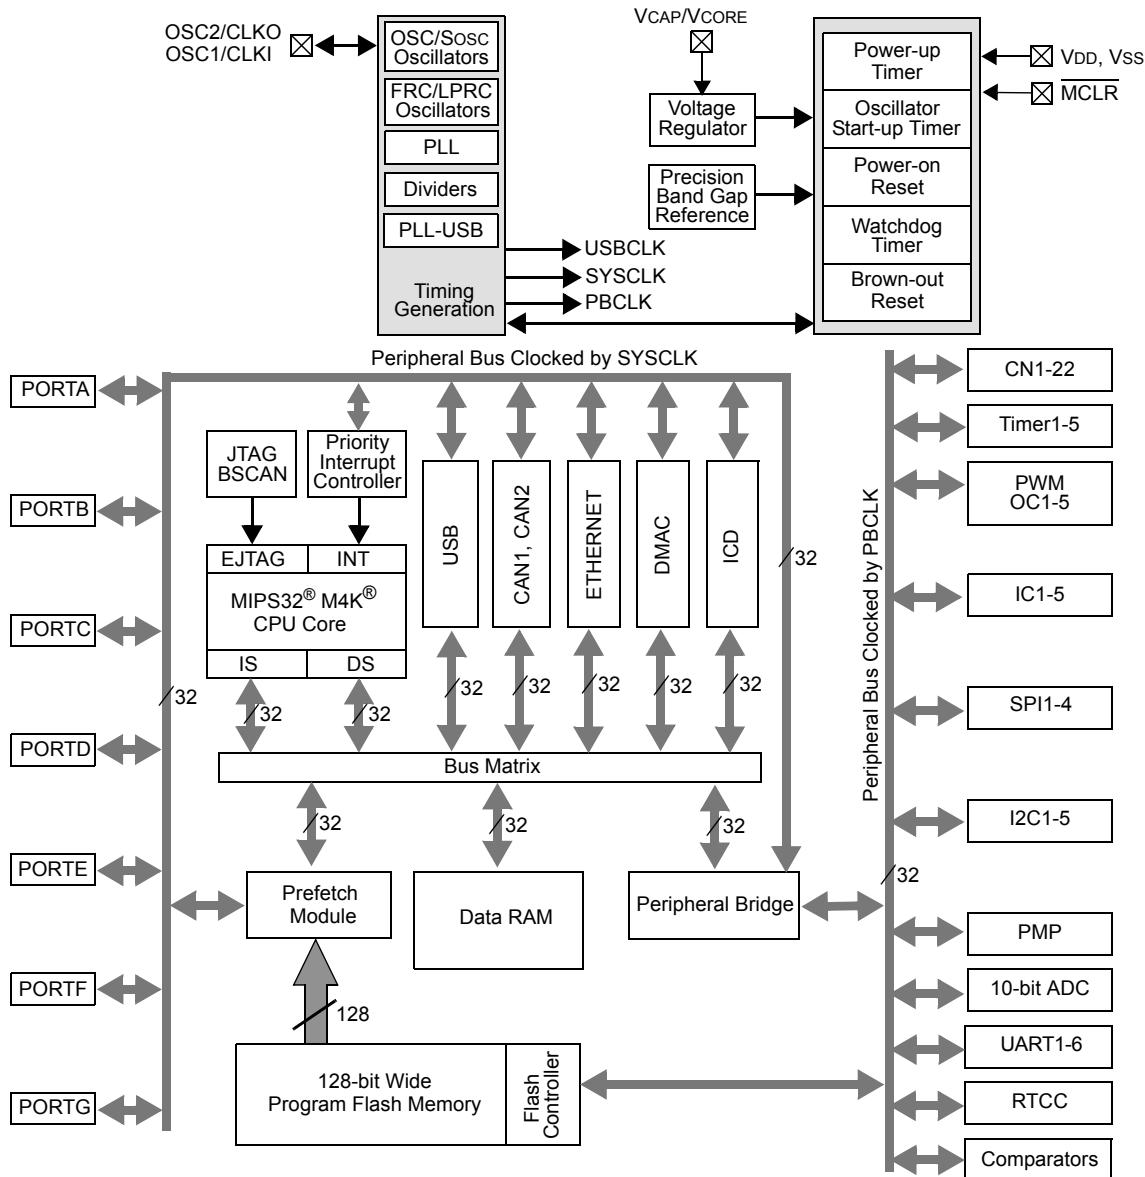

Figure 2.2: The PIC32MX5XX/6XX/7XX architecture.
Figure 2.2 is a block diagram of the architecture of the PIC32. Of course there is a CPU, program memory, and data memory. Perhaps most interesting to us, though, is the plethora of *peripherals*, which are what make microcontrollers useful for embedded control. From left to right, top to bottom, these peripherals consist of PORTA ... PORTG, which are digital I/O ports; 22 change notification (CN) pins that generate interrupts when input signals change; five 16-bit counters (which can be used as one 16-bit counter and two 32-bit counters by chaining) that can be used for a variety of counting operations, and timing operations by counting clock ticks; five pins for output pulse-width modulation (PWM) pulse trains (or “output compare” OC); five pins for “input capture” (IC) which are used to capture timer values or trigger interrupts on rising or falling inputs; four SPI and five I²C synchronous serial communication modules; a “parallel master port” (PMP) for parallel communication; an analog-to-digital converter (ADC) multiplexed to 16 input pins; six UARTs for asynchronous serial communication (e.g., RS-232, RS-485); a real-time clock and calendar (RTCC) that can maintain accurate year-month-day-time; and two comparators, each of which determines which of two analog inputs has a higher voltage.
communication. The timing generation block that creates these clock signals and other elements of the architecture in Figure 2.2 are briefly described below.